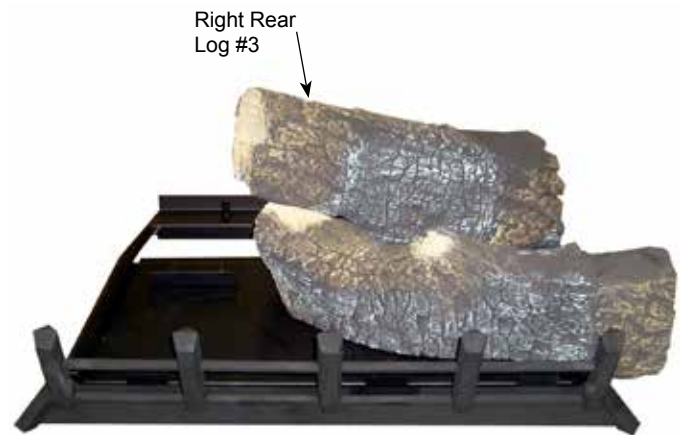

Figure 37.
3. Place right rear log (#3) on pin located on rear support bracket and rest left side of log on front right log. Figure 37. After placing right rear log, ensure log is fully upright and does not tilt forward. Slide #1 log ember chunk back to contact right rear log.